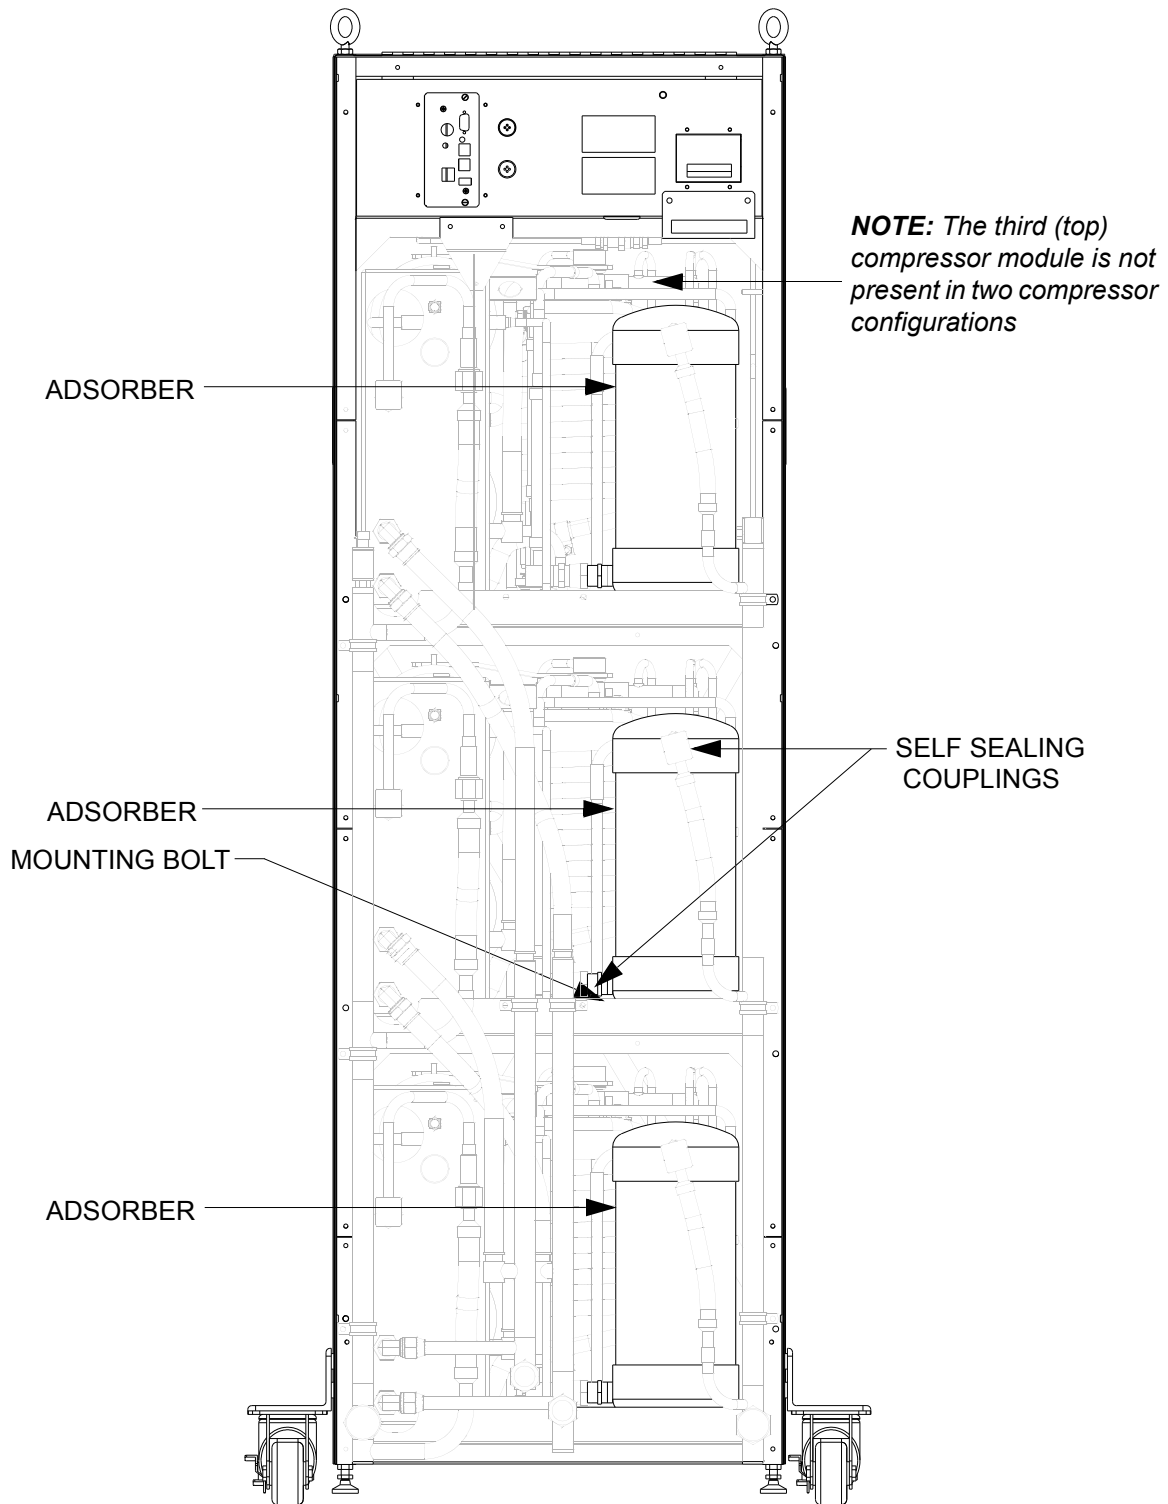

Figure 6-2: Adsorber Location within the High Capacity Helium Compressor
3. For each adsorber, use a 1-3/16 in. wrench, and a 1-1/8 in. wrench, to disconnect the two self sealing couplings, as shown in Figure 6-2.
4. For each adsorber, use a 7/16 in. wrench to remove the adsorber mounting bolt as shown by the arrows in Figure 6-2.
5. Slide the adsorber from under the mounting tabs in the base as shown in Figure 6-2, and remove the three adsorbers from the High Capacity Helium Compressor.